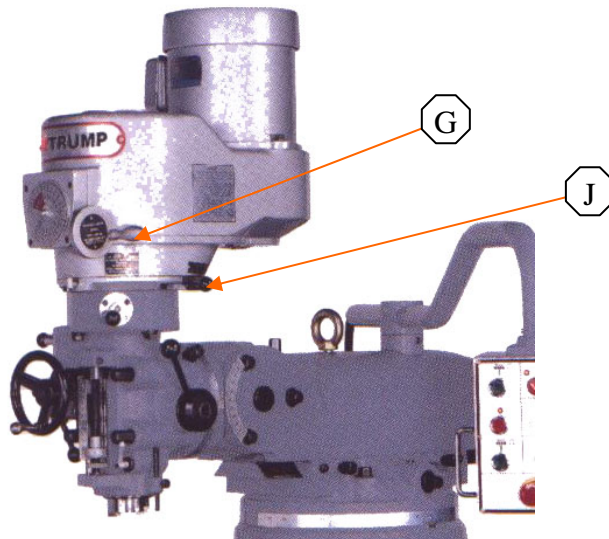

FIG6-5
The speed change may be effectuated by the chosen high and low speed lever (figure 6-5 (J)). When (J) is engaged in the right front, it is for the high speed and the spindle rotate as high as 500 or 3,000 rpm. The neutral lever position is in the right down.
Step less speed variation between high and low speeds may be controlled by means of the turning hand wheel (figure 6-5(G)) when it is turned clockwise, it is for higher speed, and vice-versa.
Adjustment and change of belt pulley (figure 6-5):